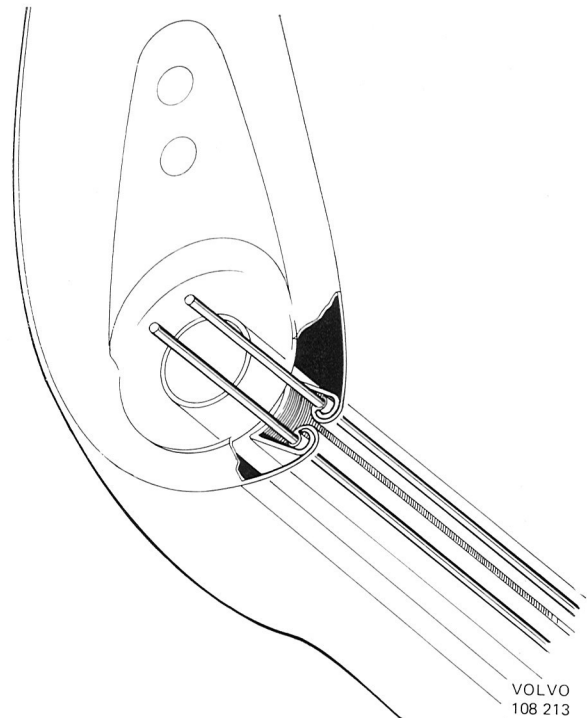

Fig. 8-58. Attachment of upholstery at the retaining moulding
6. Remove the upholstery locking wires, Fig. 8-58. Remove the seat back pouch and lift up the upholstery from the retaining moulding.
10. Install the locking wires in the upholstery channel and hook the upholstery in the retaining moulding, see Fig. 8-58. Install the seat back pouch and lock the upholstery with the seat back pouch clips.